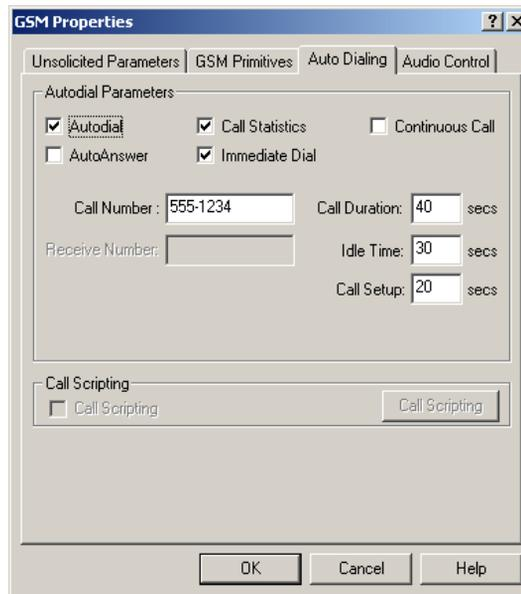

Figure 43 An example of a device properties dialog box
- 4 Step through the tabbed areas of the properties dialog box and configure the device as required. For more information on device properties, select **F1** or click the **Help** button. Refer to Figure 43 on page 85 for an example of a typical properties dialog box.